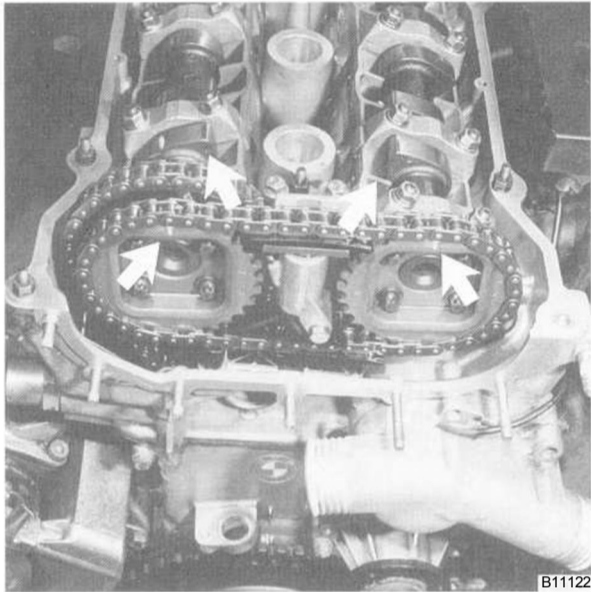

Fig. 8. Engine set to approximate TDC—camshaft lobes face In and sprocket arrows point up (arrows).
14. Set the engine to approximate TDC by rotating the engine in the normal operating direction until the camshaft lobes at cylinder no. 1 are facing each other. See Fig. 8.